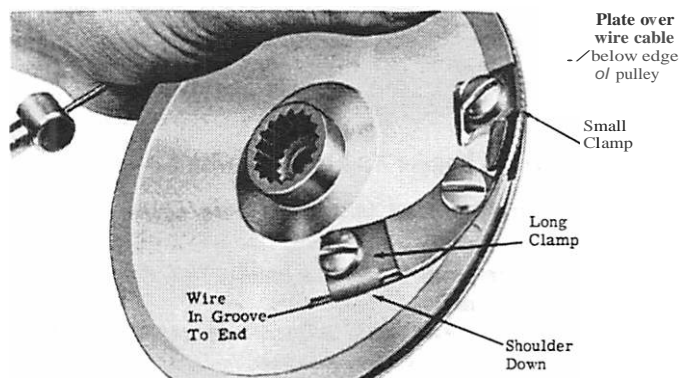

Figure 3. Wire in Pulley and Groove
6. As soon as end of wire can be lifted up (use awl or ice pick), pull wire out far enough so that end of wire touches end of pulley groove and can be placed into cable wire groove in pulley. (Figure 3)
7. Place clamp nearest end of groove and tighten securely. (Figure 3)
9. Place second clamp in position, making sure that groove in clamp retains wire. (Figure 3)
3. Remove pulley, link chain and both clamps and clamp backing plate which hold inner wire on pulley. (Figure 3)
4. Insert inner wire of cable into pulley groove and place long clamp in position over wire. (Figure 3) Be sure that inner wire is pushed down fully into pulley groove to seat.
6. Place small clamping plate in position over inner wire. Set recess of clamp over inner wire and secure tightly with screw. (Figure 3) Be sure that inner wire is recessed in pulley guide. If inner wire is too high in groove, it will cause binding in control when assembled.